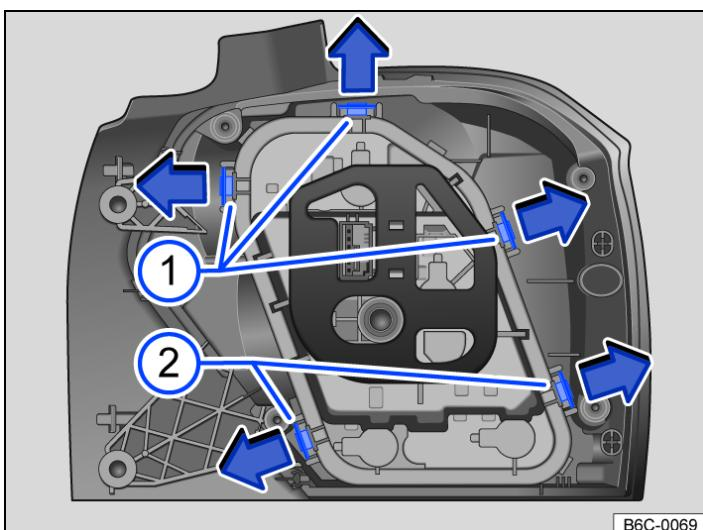

Fig. 2 Tail light cluster: removing the bulb holder.
1. To release the bulb holder, push the tabs → Fig. 2 1 and → Fig. 2 2 in the direction of the arrows.